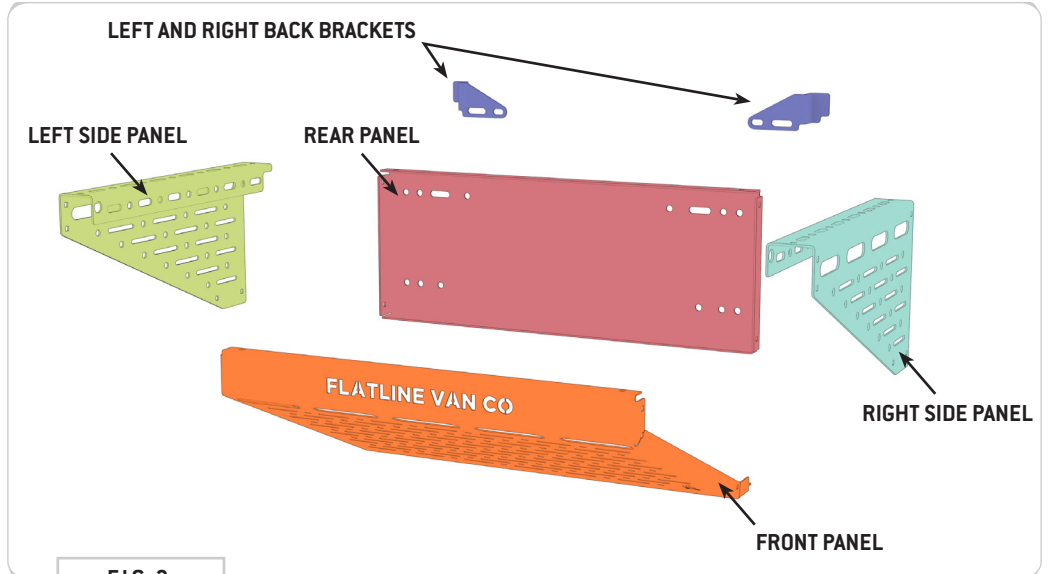

FIG 3
2.1 Attach Left and Right Side Panels to Rear Panel: Position the **Left and Right Side Panels** to the **Rear Panel** in the orientation as shown in **FIG 3** and **4**. Secure using **1/4-20 x 0.75 Carriage Bolts, Flat Washers and Nylon Locknuts**.